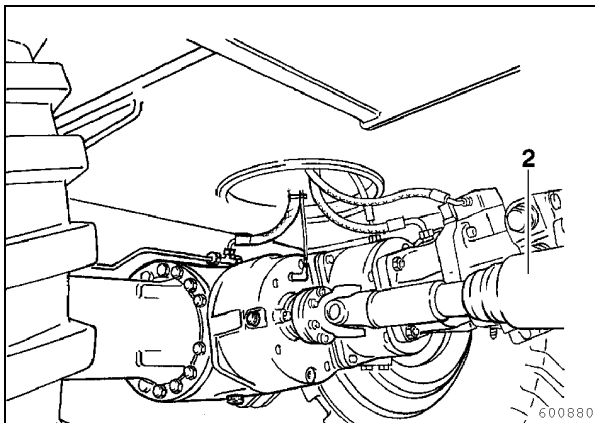

Fig. 3
- Prop up the rigid axle using an appropriate device (e.g. lift truck) (Fig. 3).